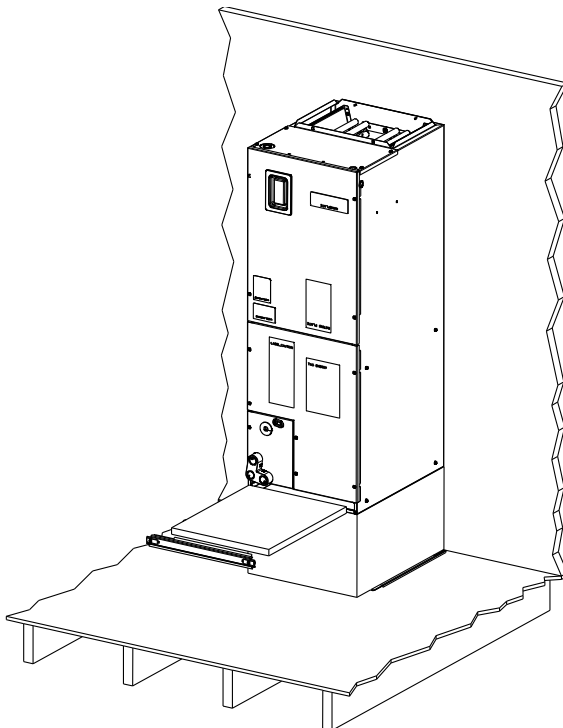

Fig. 12 – Unit with Filter
3. Set the unit onto the Upflow Stand (Fig. 12).